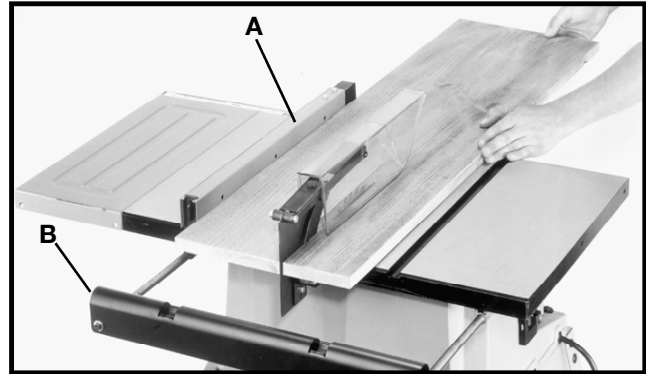

Fig. 46
Ripping is cutting lengthwise through a board. The rip fence (A) Fig. 46 is used to position and guide the work. One edge of the work rides against the rip fence while the flat side of the board rests on the table. Since the work is pushed along the fence, it must have a straight edge and make solid contact with the table. The saw blade guard must be used. The guard has anti-kickback fingers to prevent kickback and a splitter to prevent the wood kerf from closing and binding the blade.
1. Start the motor and advance the work holding it down and against the fence. **Never** stand in the line of the saw cut when ripping. Hold the work with both hands and push it along the fence and into the saw blade (Fig. 46). The work can then be fed through the saw blade with one or two hands. After the work is beyond the saw blade and anti-kickback fingers, the hand is removed from the work. When this is done the work will either stay on the table, tilt up slightly and be caught by the end of the rear guard, or slide off the table to the floor. Alternately, the feed can continue to the end of the table, after which the work is lifted and brought along the outside edge of the fence. The cut-off stock remains on the table and is not touched until the saw blade has stopped, unless it is a large piece allowing safe removal. When ripping boards longer than three feet, it is recommended that outfeed support (B) Fig. 46, should be extended as far out as possible to keep workpiece from falling off the saw table.